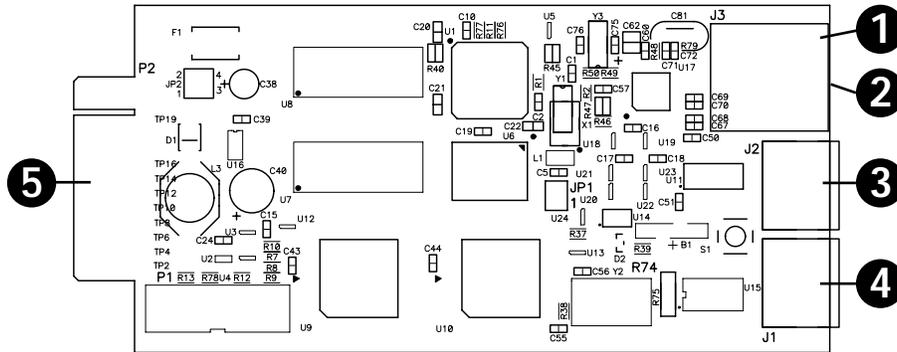

Figure 1-1: SNMPWEBCARD
1. Connect the "Configuration" port on the SNMPWEBCARD to the serial port on your PC or terminal (see Figure 1-1).